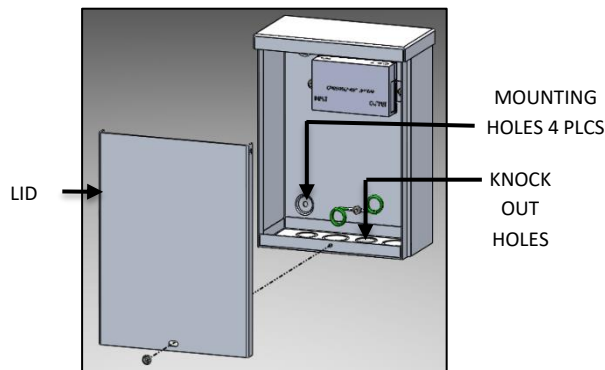
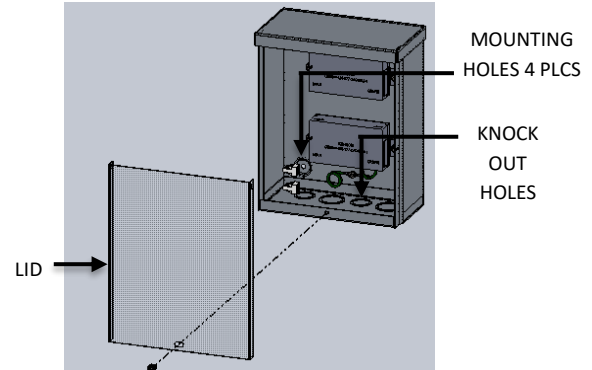

FIG. 7 – REMOTE DRIVER BOX ASSEMBLY FOR 24, 36, 48 AND 60 MODELS
FIG. 8 – REMOTE DRIVER BOX ASSEMBLY FOR 72 MODEL
2. Remove the lid of the REMOTE DRIVER HOUSING as shown in FIG. 7 and FIG. 8 below.